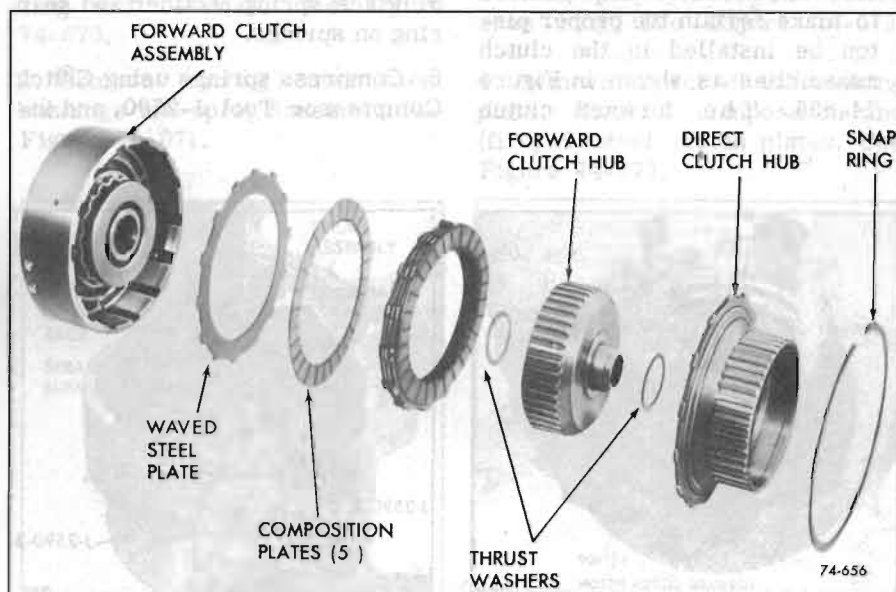

Figure 74-655
1. Inspect drive and driven clutch plates for signs of burning, scoring, or wear. See Figure 74-655.